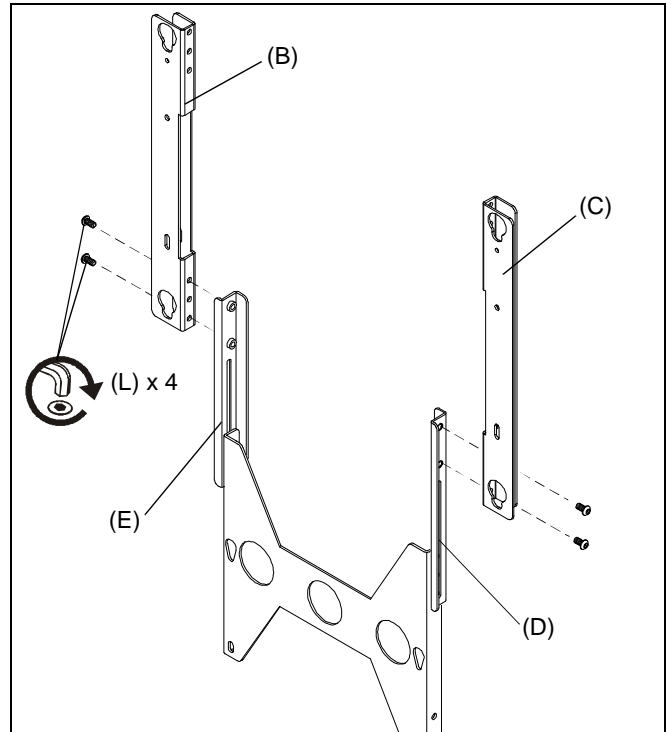

Figure 2
1. Assemble left speaker mounting support (B) to left bottom speaker bracket (E) using two 1/4-20 x 1/2" button head cap screws (L). (See Figure 2)
2. Assemble right speaker mounting support (C) to right bottom speaker bracket (D) using two 1/4-20 x 1/2" button head cap screws (L). (See Figure 2)